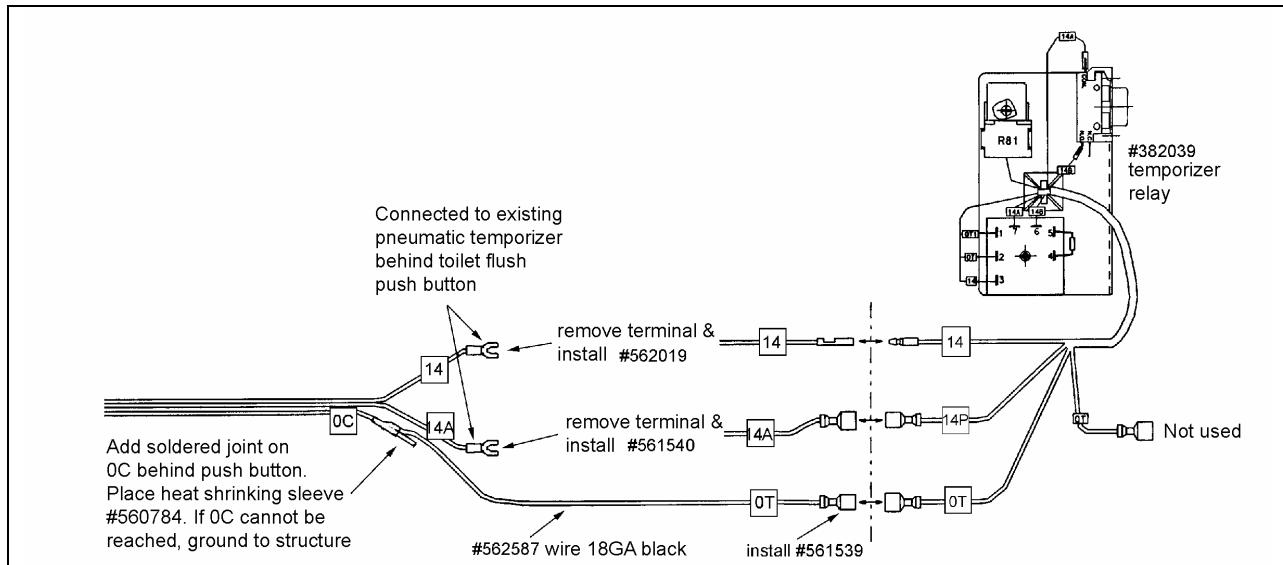

FIGURE 9 : H5 SERIES
H5 series (figure 9)
7. Crimp the new terminals and connect the wires as shown in figure 9.